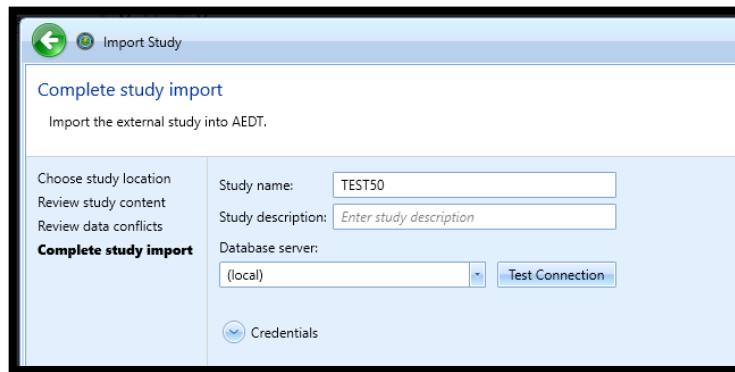

Figure 57- Complete study import
6. In the *Complete study import* step, enter a unique *study name* (Figure 57).